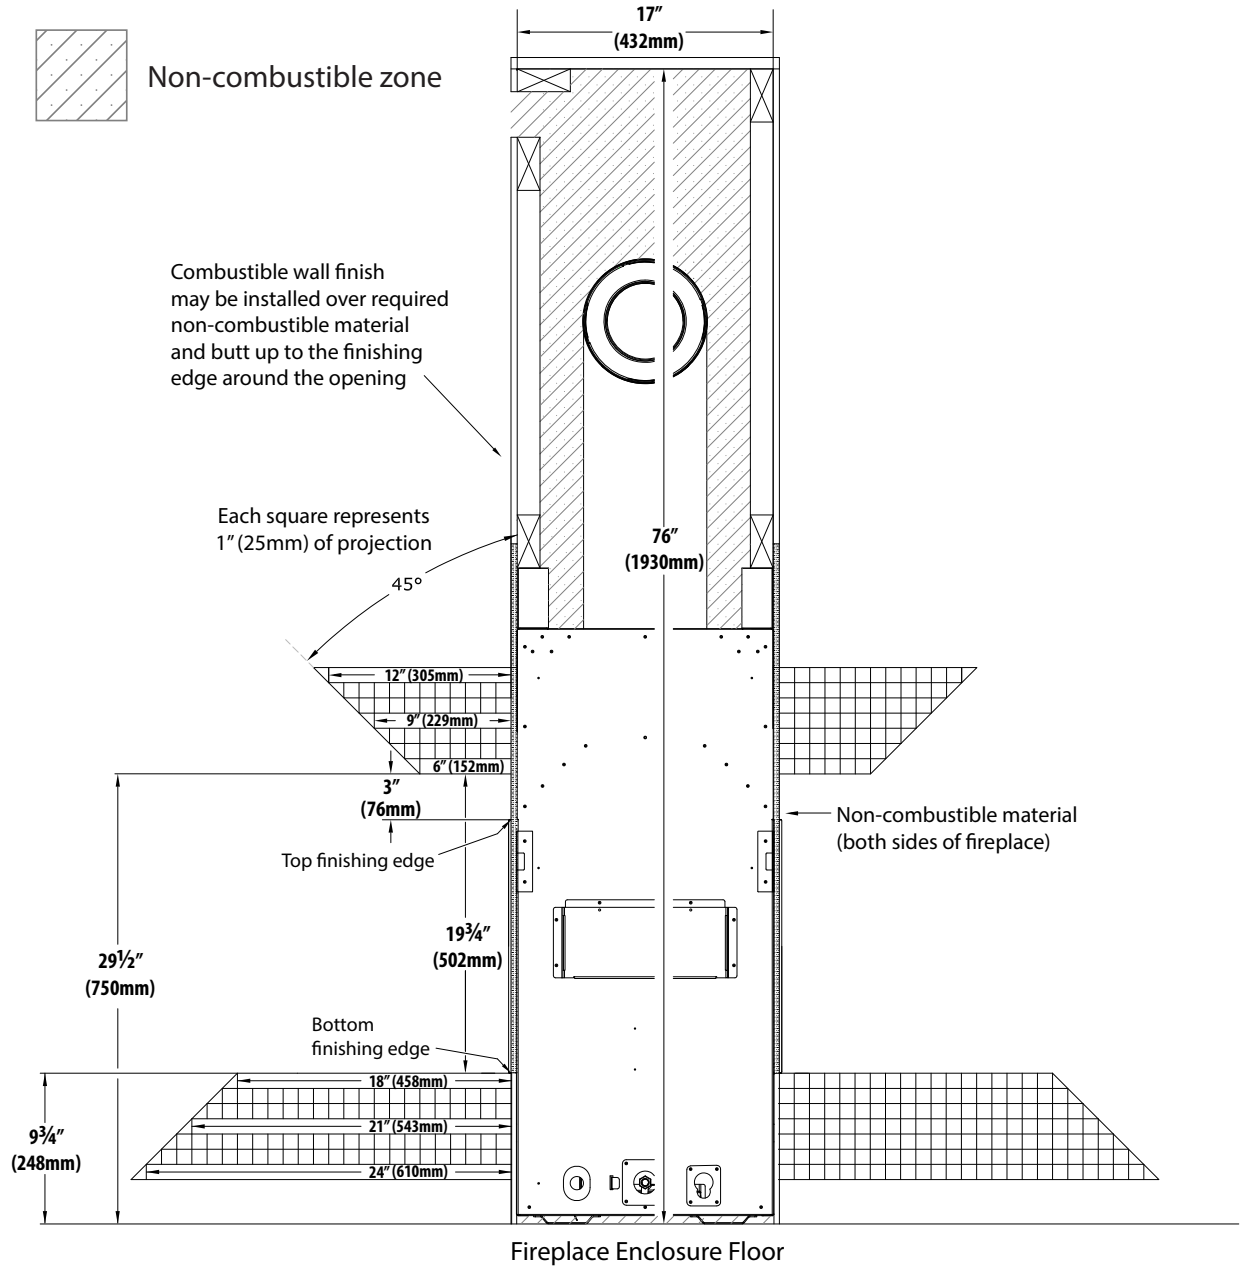

FIGURE 4.11 Vented Cavity & KZK Facing and Finishing Clearances - No Surround (single opening vented cavity installation shown)
- **Combustible Hearth and Mantel Projections** - See FIGURE 4.11 on page 44 for facing and finishing clearances. *If installing an optional surround*, Refer to Section 4.4 Finishing Guidelines for Optional Surrounds on page 42.